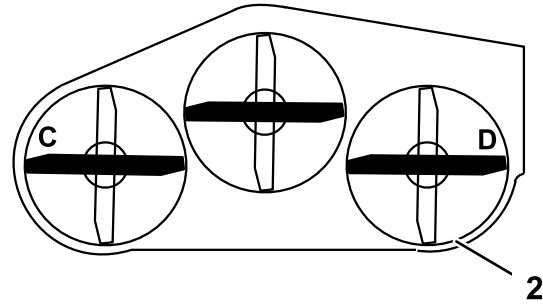
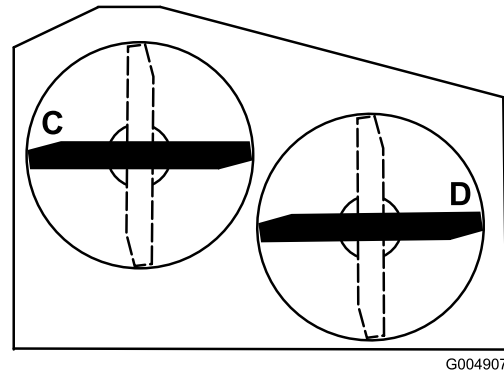

Figure 85
Figure 86
2. Position the blades side-to-side. Measure at C and D locations from a level surface to the cutting edge of blade tips (Figure 85). For 36 inch mower decks use Figure 86.